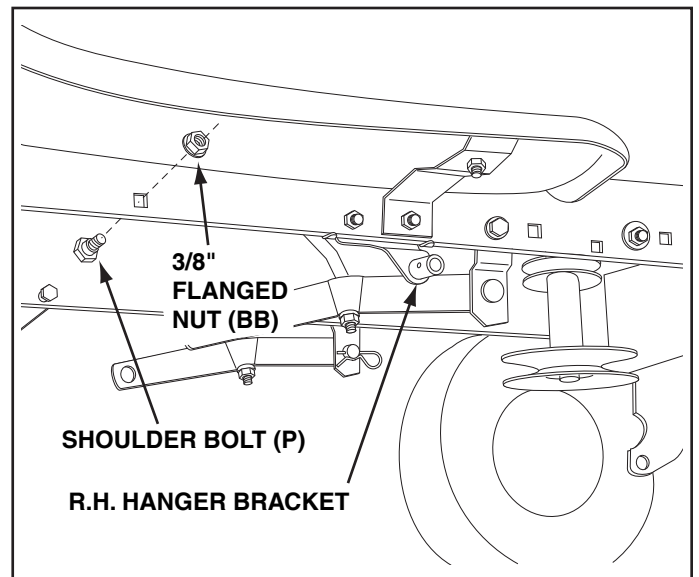

FIGURE 28 RIGHT SIDE VIEW
STEP 28: (SEE FIGURE 28)
- Assemble a shoulder bolt (P) and 3/8" flanged nut (BB) to the R.H. side of the tractor frame, using the first empty hole to the rear of the R.H. hanger bracket. Bolt goes on inside of frame.